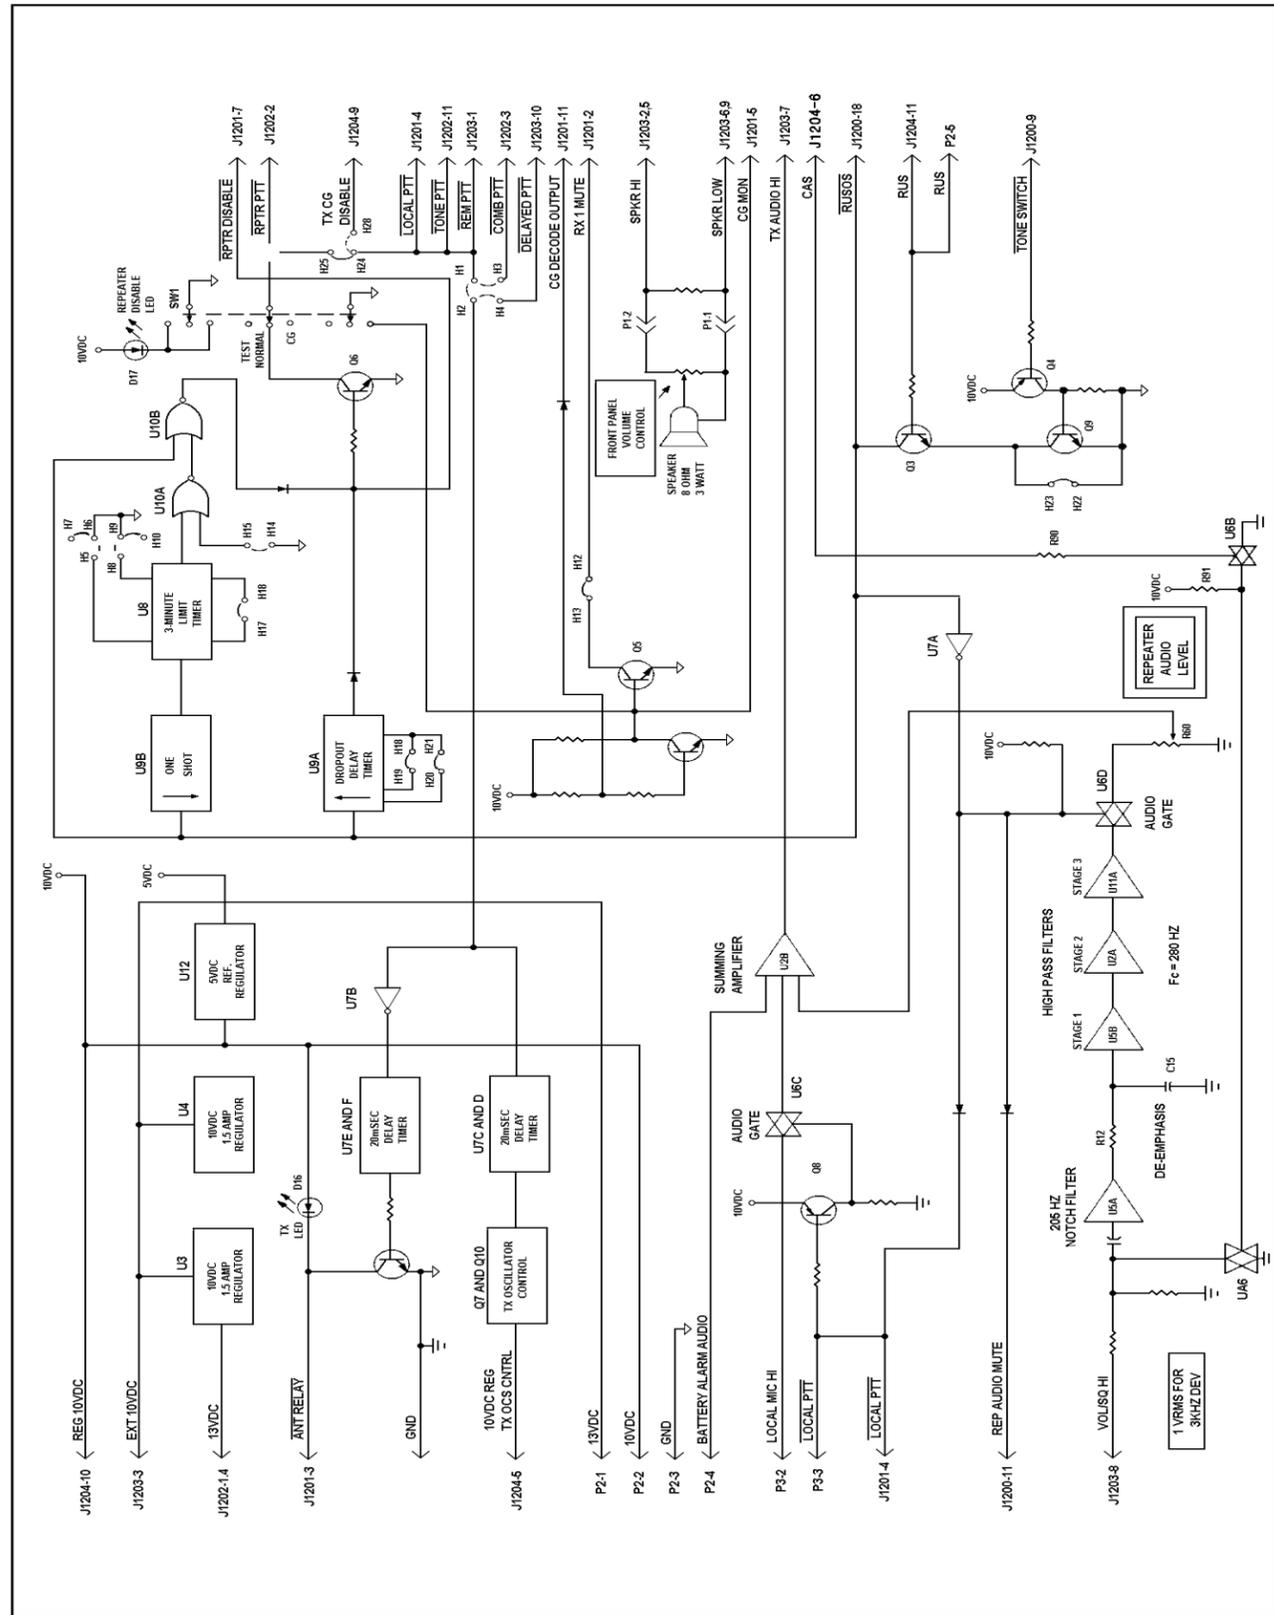

FIGURE 1 - BLOCK DIAGRAM
- ③ THIS INSTRUCTION COVERS THE INSTALLATION OF BATTERY STANDBY, OR BATTERY STANDBY / SQUELCH OPERATED RELAY BOARD.
2. INSTALL WIRE SUPPLIED BY CONNECTING ONE END TO J1216 ON BATTERY STANDBY BD. ROUTING ALONG SIDE EXSISTING HARNESS AND PLUGGING OTHER END ONTO PIN 7 OF P9 ON STATION POWER SUPPLY. (SEE FIG 1).
P 9 ON STATION POWER SUPPLY FIG. 1
The 19B234871P1 Repeater Control Panel is a self contained unit that contains the audio, regulated power supplies and timing control circuits required to operate the repeater. The station panel is located within the 7-rack unit radio panel and is accessed by opening the receiver exciter door on the front of the repeater cabinet. Figure 1 provides a Block Diagram of the panel assembly.